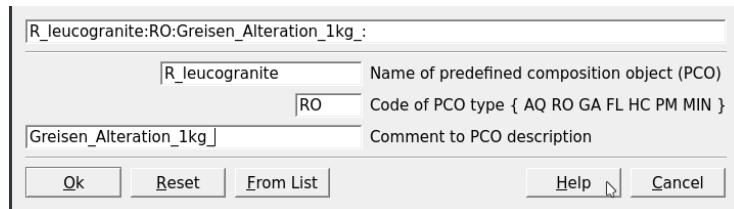

Figure 3.2: Parameters for creating a rock as PCO.
- To create the rock click on **Clone a new record** in Panel 1. Fill the parameters as shown in Figure 3.2.